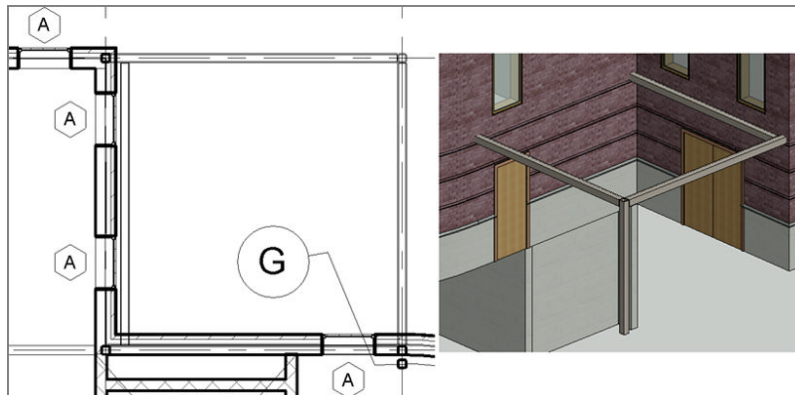

FIGURE 8.38: Completing the framing for the canopy
12. Draw another beam from left to right, inside the wall, as shown in Figure 8.38.